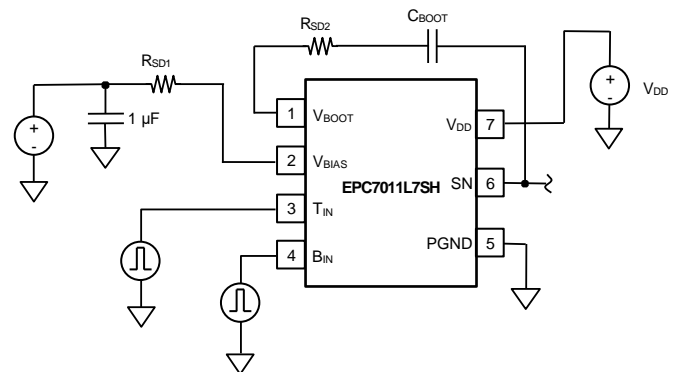

Figure 3. External Damping Resistor Connections
The EPC7011L7SH is designed to be a high-speed power driver. As such it has extremely fast switching node (SN) rise and fall times by design. Fast rise and fall times can and will result in unwanted voltage spikes at the  $V_{DD}$  and PGND pins due to any parasitic layout inductance ( $V_{SPIKE} = L_{PAR} \cdot di / dt$ ). If these spikes cannot be reduced to an acceptable level through PCB optimization, two resistors may be added to provide the necessary damping to the local supply loop. These resistors,  $R_{SD1}$  and  $R_{SD2}$  are shown in Figure 3.